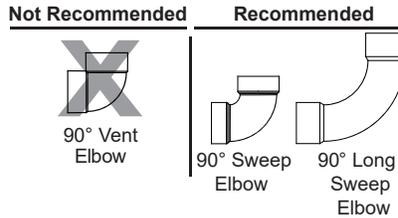

Figure 18 - Acceptable/Unacceptable Elbows
- Do not use tight 90° elbows. Standard and long sweep elbows are acceptable. See Figure 18.